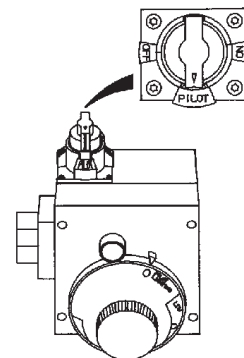

Figure 7
8. If you don't smell gas, turn knob on gas control counter-clockwise  to "PILOT" position. (Figure 7)